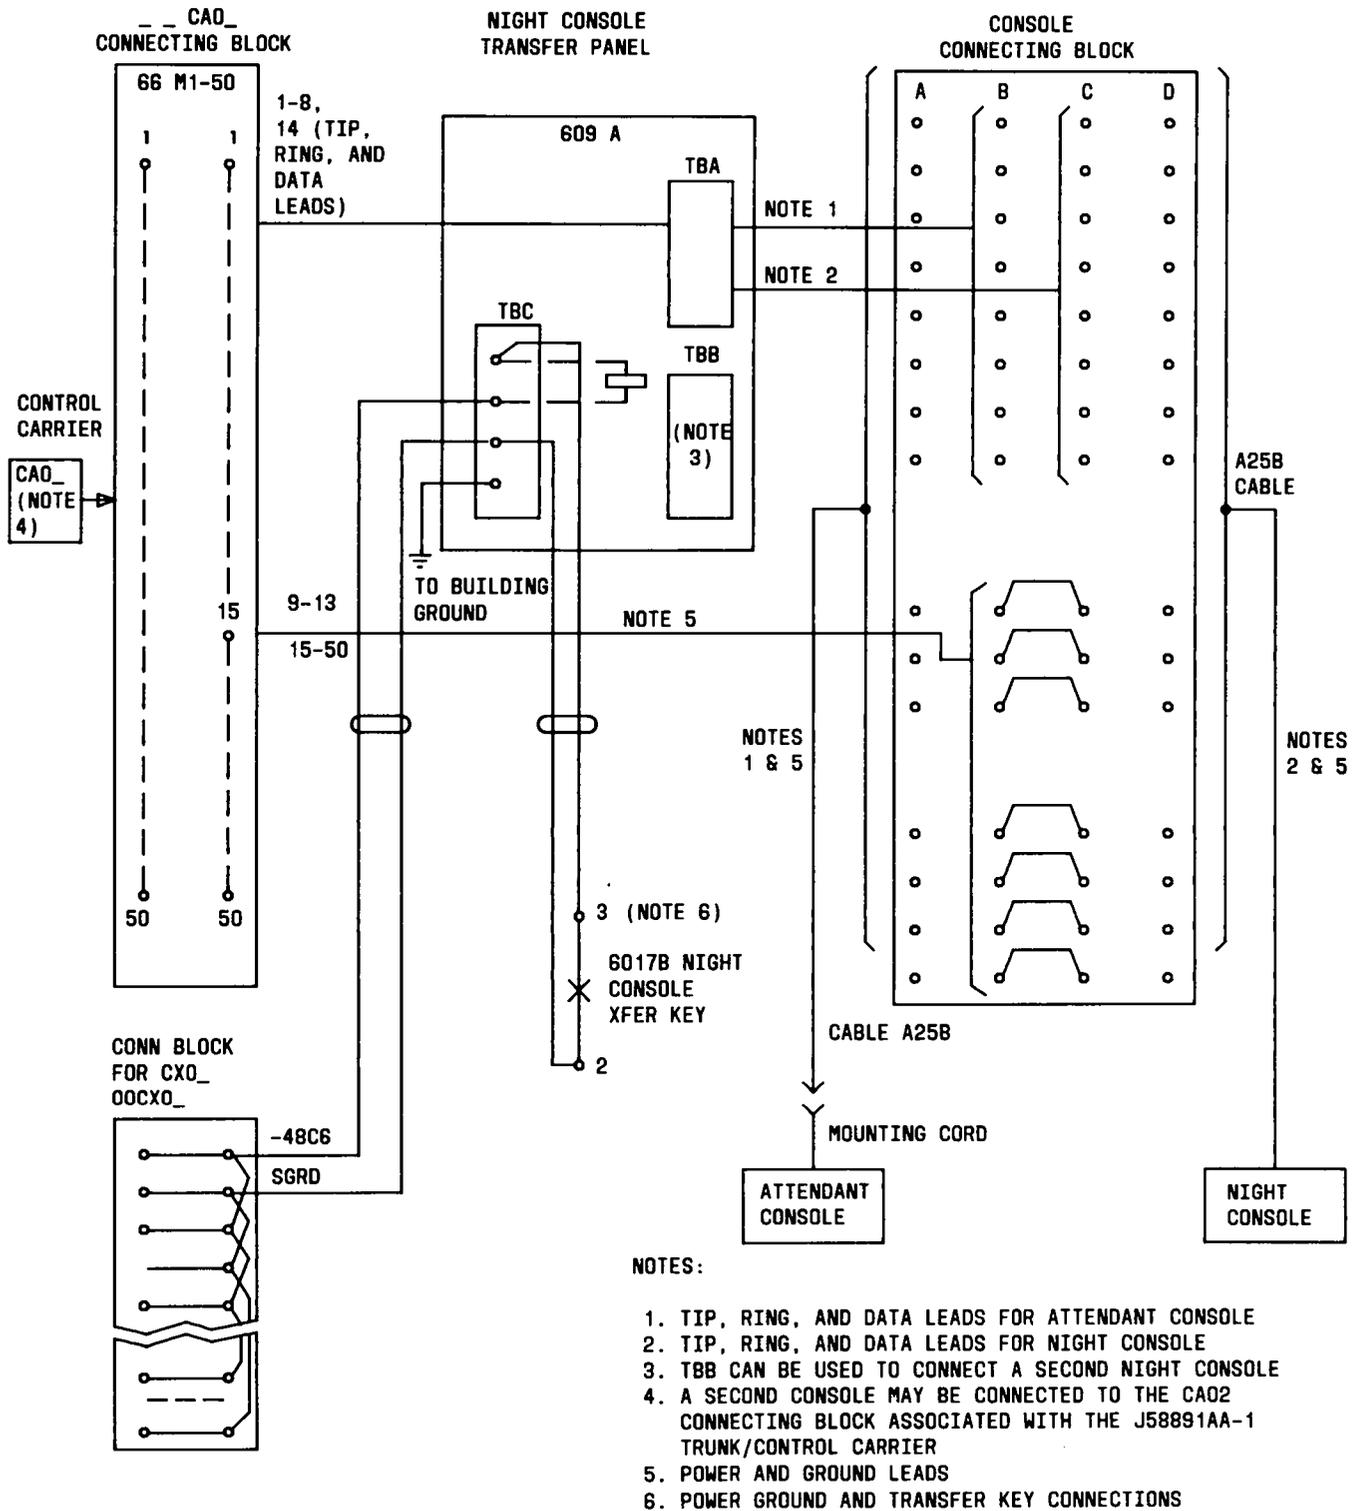

Fig. 59—Night Console Interconnection
**9.16** The attendant selects night console mode via the 6017B night transfer switch at the daytime console and disconnects the daytime console handset or headset. The night console is switched in and out of service by the 609-type transfer panel located in the cross-connect field (see Fig. 59). Day and night console connections are made via cross-connect field blocks when night console service is provided.